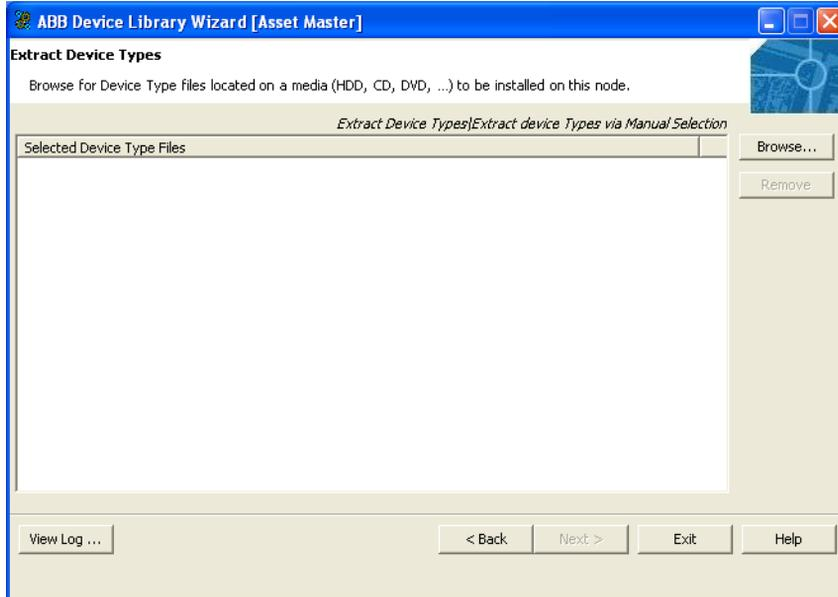

Figure 99. Extract Device Types
7. In the resulting screen, similar to the one shown in Figure 99, Click **Browse**.